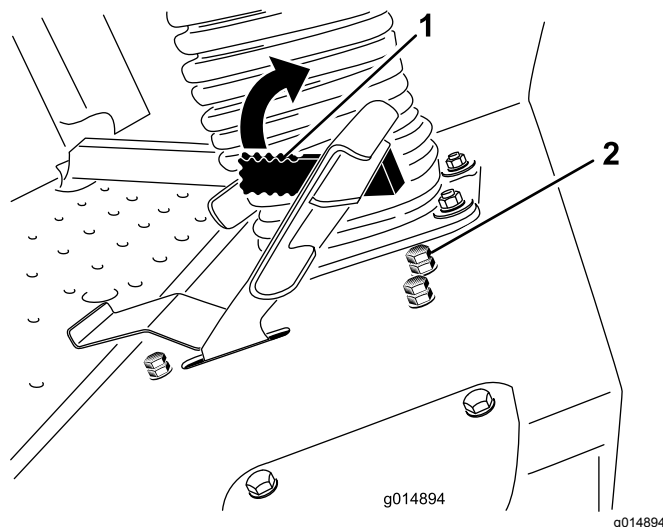

Figure 66
The mow speed limiter lever (Figure 66) can be flipped forward to limit the traction speed while operating.
- Loosen the jam nut on the mow speed limiter stop bolt (Figure 66).